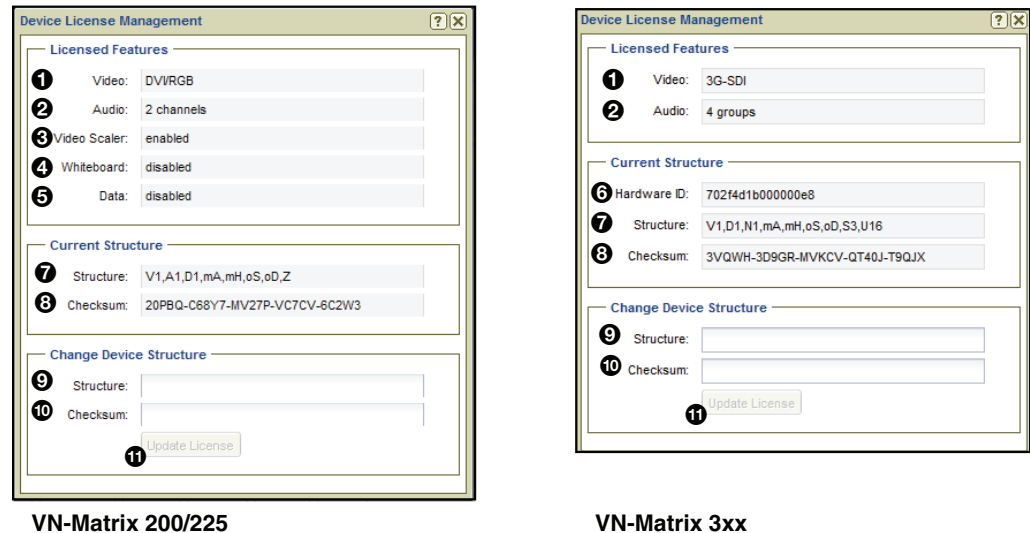

Figure 42. License Menu
Click **License** (see figure 31 on page 43) to open the **Device License Management** dialog box. This dialog displays the enabled features on the selected unit and also enables optional features (see figure 42).
- Enter the **structure key** into the **Structure** field (see figure 42 ⑨, on the previous).
- Enter the **checksum** into the **Checksum** field (⑩).
3. Click **Update License** (⑪) to save the new license.